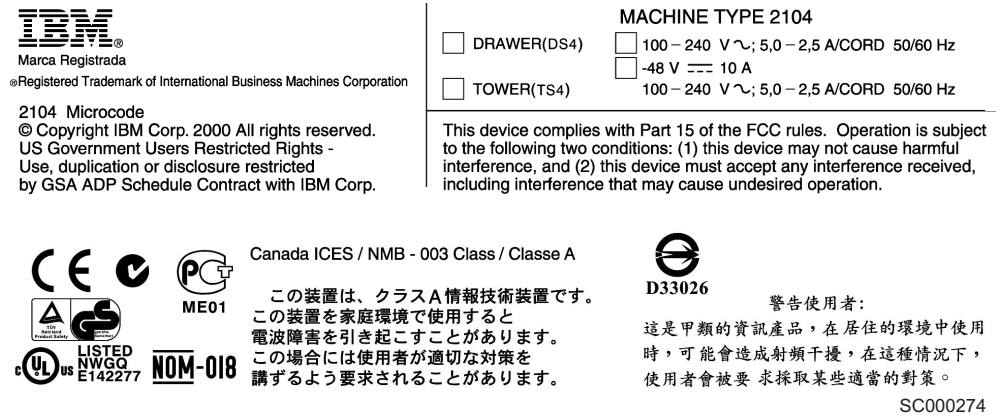

Figure 1. 2104 Model DS4 or Model TS4 label
1. Verify that the label is installed on the 2104 Model DS4 or Model TS4. See Figure 1.